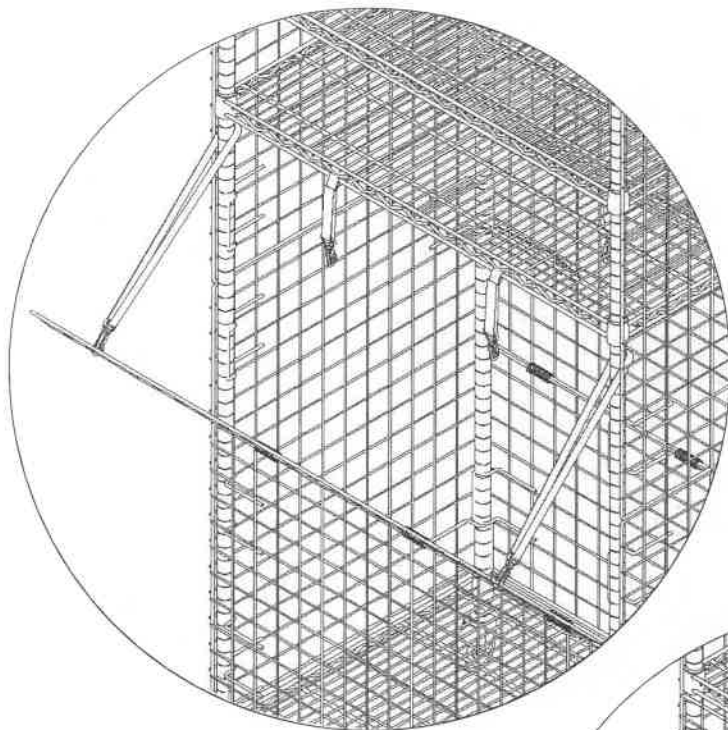

Figure 20: Door Partially Open
To load/unload the cart, you can keep the hinge (K) half open as shown in Figure 20. It serves as a safety when locking the cart.